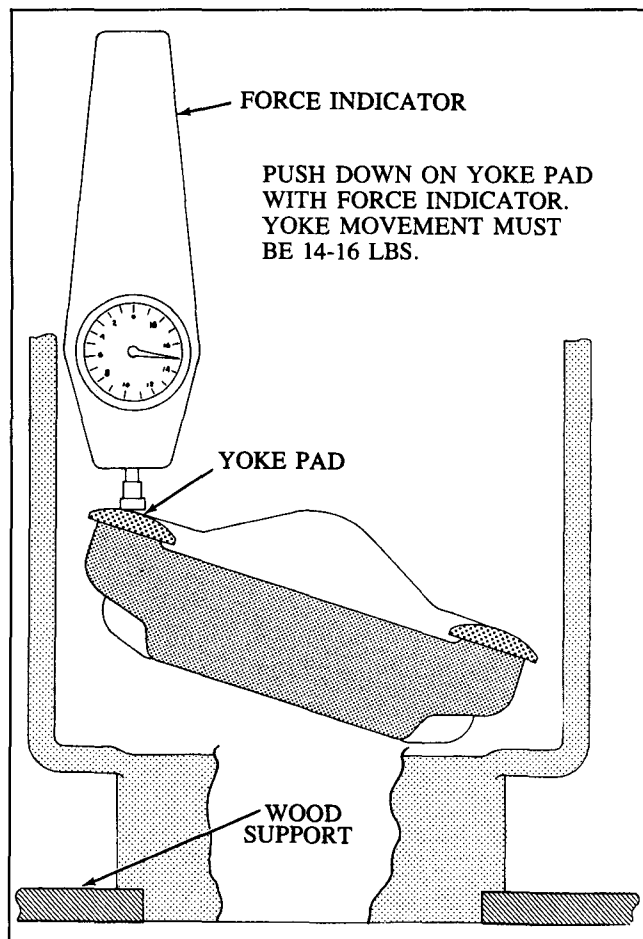

Figure 16. Yoke Force
e. Install spacer (66), o-ring (65), and cover (64). Fasten cover (64) to housing (77) with four screws (63). Tighten the screws to 15-18 Nm (11-13 lb. ft.).
f. Push on the yoke pad as shown in Figure 16. The force to move the yoke (71) should be between 10-15 lbs. If the force is too low, shims (67) must be added. If the force is too high, shims (67) must be removed. (Note: .001 shim thickness equals approximately 1 lb.). If the force is between 10-15 lbs., proceed to step 9. If the force is too low or too high, remove parts (63, 64 and 66) and adjust shim (67) thickness to obtain 10-15 lb. force.